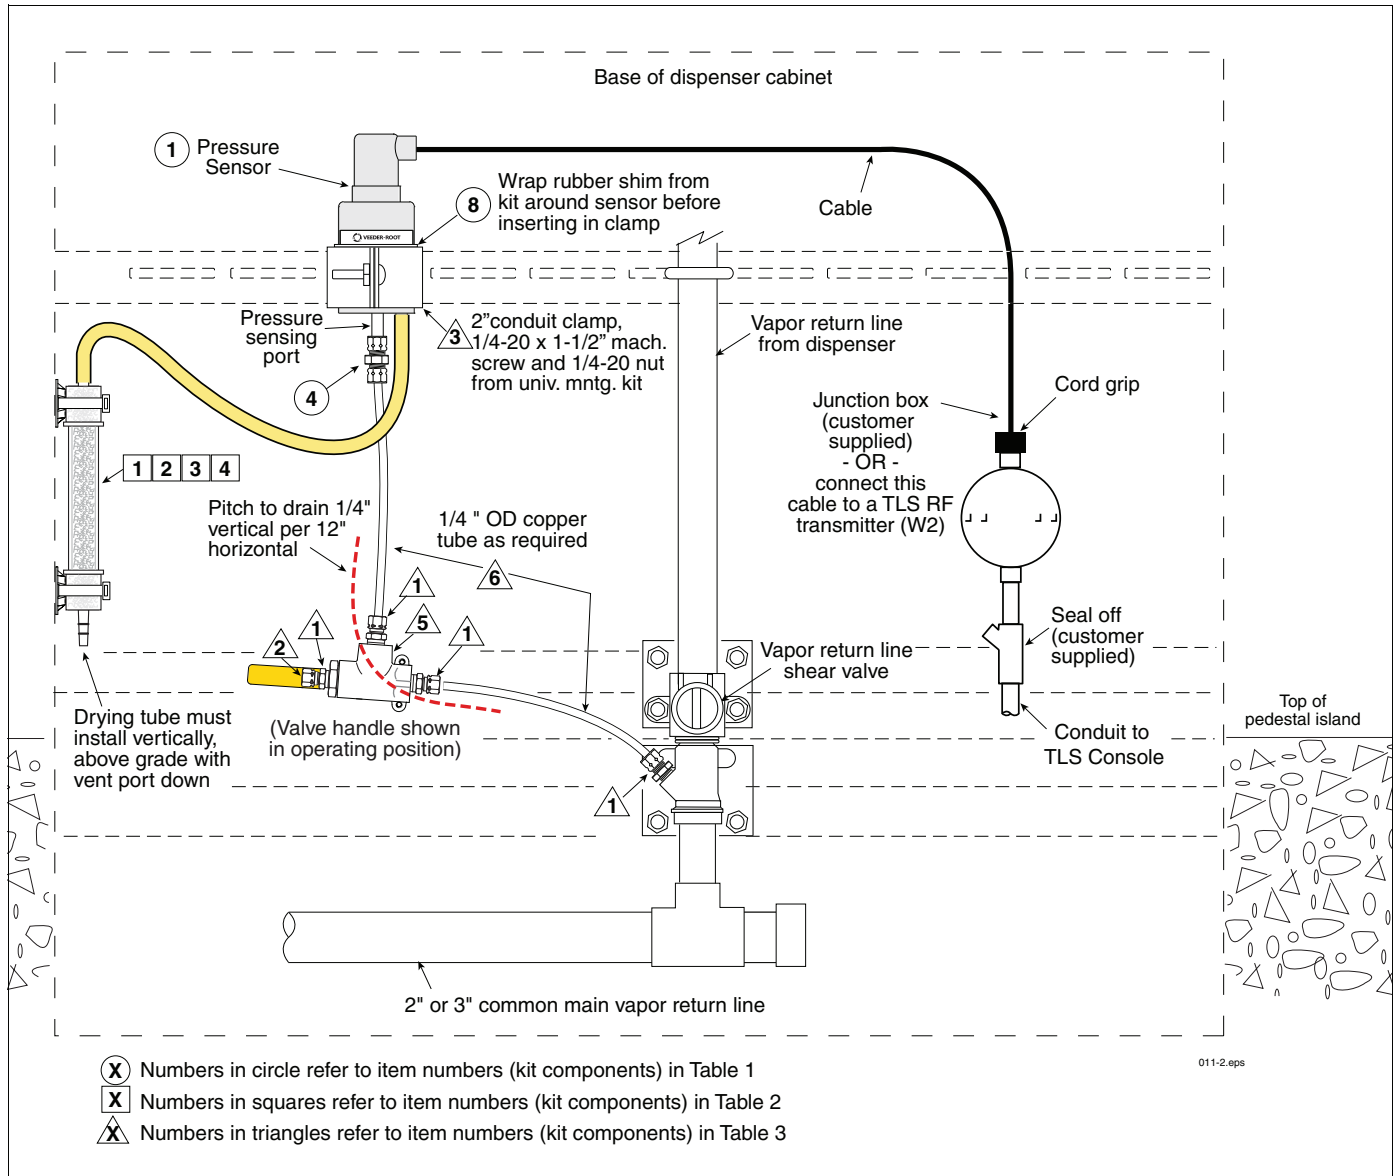

Figure 1. Example Pressure Sensor Install In Shear Valve Port - Preferred Non-ISD Installation (Without Vapor Flow Meter)
3. Refer to Pressure Sensor dispenser installation examples in Figure 1 and Figure 2 to locate a suitable port or plumb a suitable fitting for the Pressure Sensor tubing in either the vapor return shear valve or in the vapor return line. **NOTE: In ISD installations, the pressure port used must be below the vapor flow meter outlet.**
4. Install one of the 68CA-4-4 male connectors (item 1 in Table 3) from the kit into the vapor return tapped hole.
5. Install Pressure Sensor (item 1 in Table 1) vertically to the dispenser frame or piping using the 2-inch conduit clamp, rubber shim, and necessary bolts, nuts, and washers from the included Universal Sensor Mounting kit (item 3 in Table 3). Wrap the rubber shim (item 8 in Table 1) around the sensor before inserting it into the clamp. Also make sure the sensor cable outlet is facing up and the pressure sensing port tube in the base of the sensor is facing down.
6. Attach one end of the 62CA-4 union (item 4 in Table 1) to the pressure sensing port in the base of the Pressure Sensor.
7. Install the remaining 68CA-4-4 male connectors (item 1 in Table 3) from the kit into each of the three ports in the 3-way calibration valve (item 5 in Table 3).
8. Measure, fabricate, and install a 1/4" OD copper tube (item 6 in Table 3) that runs between the 62CA-4 union in the base of the sensor and the center port of the 3-way calibration valve.
10. Screw the 59CA-4 plug, (item 2 in Table 3) onto the left port's male connector. Make sure the valve's handle is set to connect the sensor to the vapor return line (normal operating position).
15. Get the contents of the pressure sensor drying tube kit (Table 2). Thread a tie wrap (item 3) through the slots in each of the self-adhesive mounts (item 4). Place the top mount against the large cap on one end of the tube and tighten the tie wrap until it is against the tube cap but you can still rotate the tube. Place the second mount against the other end cap of the tube, again pulling the tie wrap through the mount until it is against the tube cap but you can still rotate the tube.
Remove the two soft plastic seals from each end port of the drying tube. Get the Tygon tubing (item 2) from the kit and attach one end of the tubing to one end of the drying tube. Slide the tubing onto the drying tube as far as you can (snug). Referring to Figure 1, position the drying tube vertically against the inside of the dispenser with the open port of the tube down and above grade and estimate the length needed to loop from the top of the drying tube and over to the vent port (off center) of the Vapor Pressure Sensor. Cut the Tygon tubing at the estimated length.
Remove the paper cover from the self-adhesive base of the two tie wrap mounts and stick the drying tube to the inside of the dispenser in the spot you selected earlier. Pull each of the tie wraps snug and cut off the excess. Attach the other end of the Tygon tubing to the vent port (off center) of the Vapor Pressure Sensor. NOTE: the down port of the drying tube must remain open and be oriented down as shown in Figure 1.